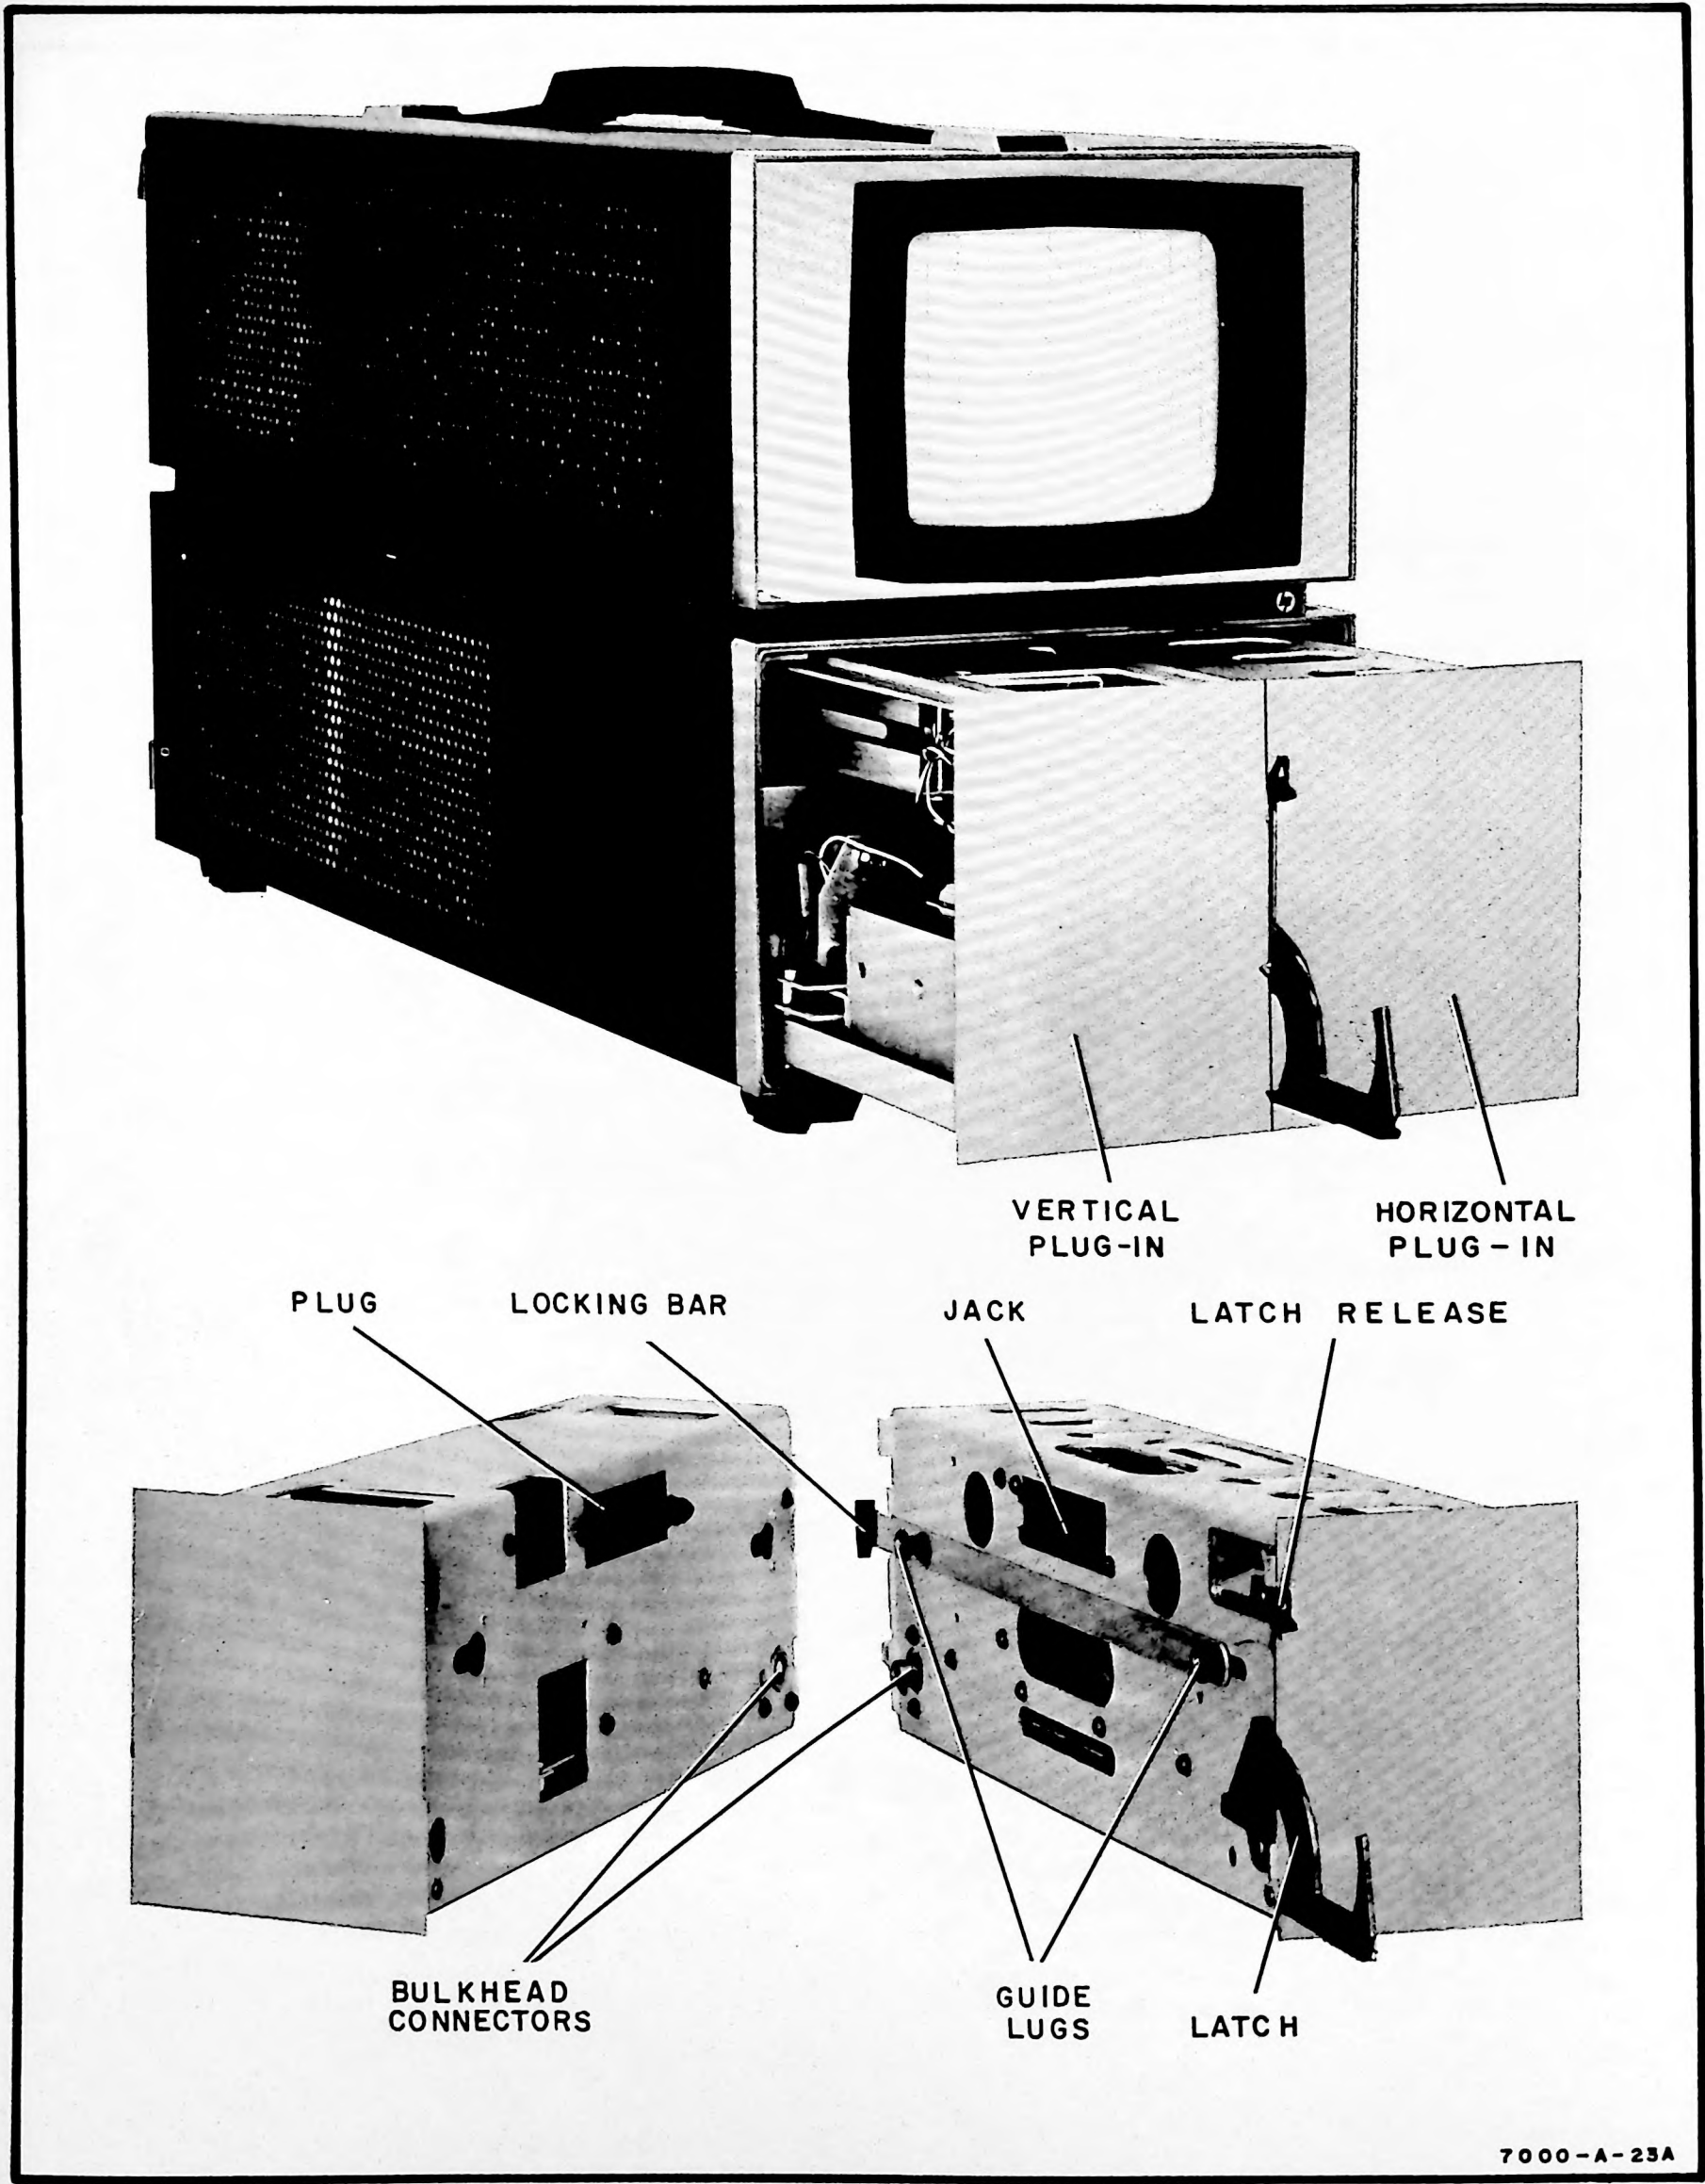

Figure 2-1. Plug-in Mating
- a. Move locking bar to rear (figure 2-1).